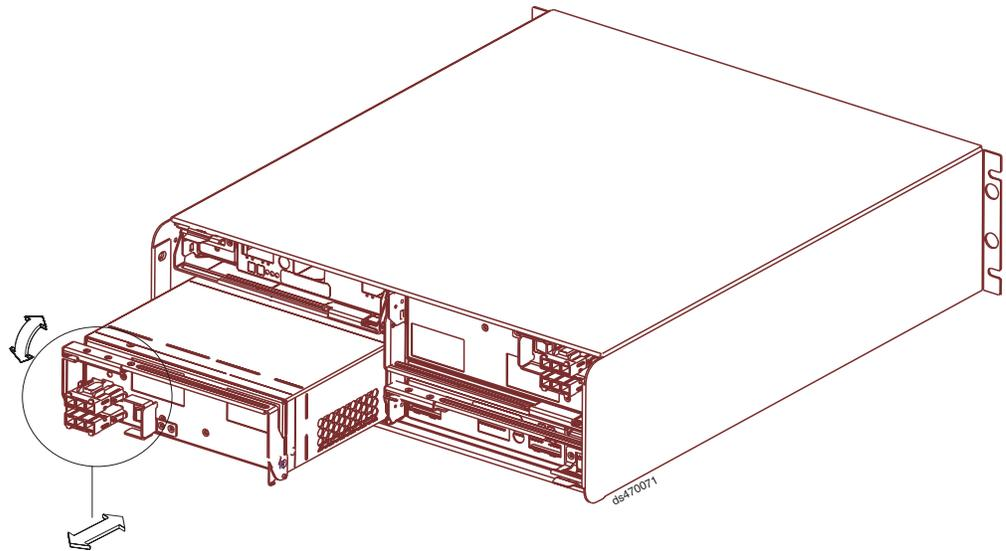

Figure 23. Removing a DC power supply and fan unit
2. Slowly pull the lever away from the chassis to remove the DC power supply and fan unit, as shown in Figure 23 on page 45.